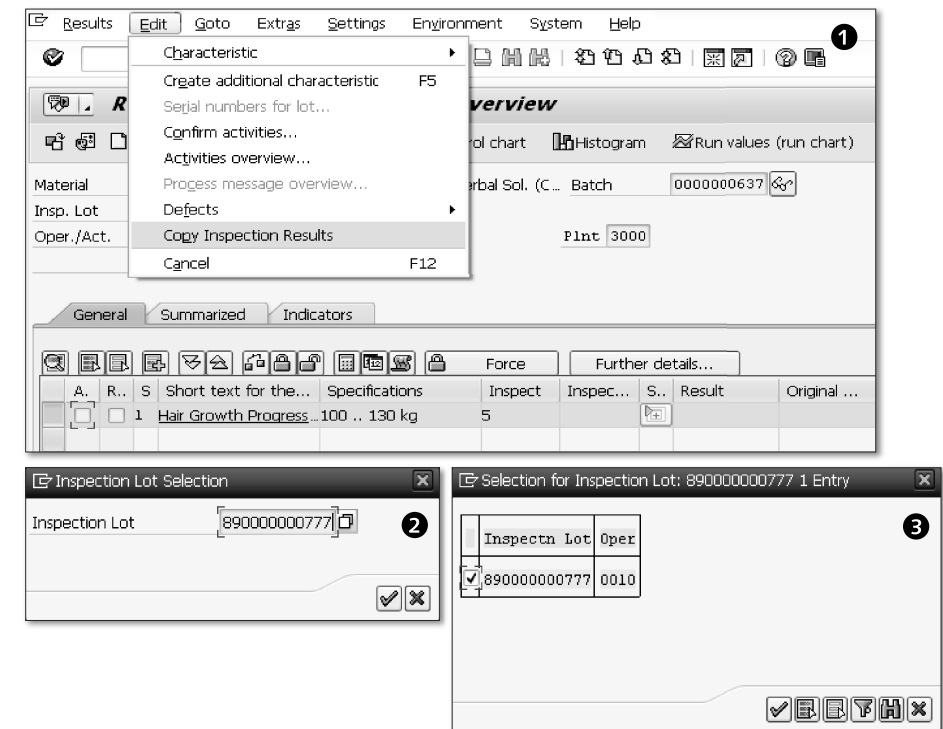
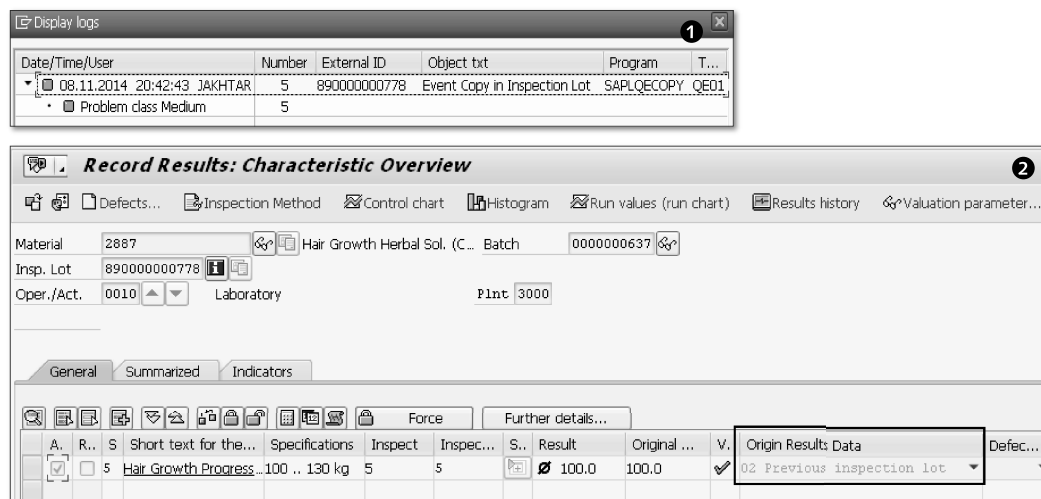

Figure 3.22 Copy Options for Results Recording
Figure 3.23 Inspection Lot with Copied Results
Access Figure 3.22, which is the results recording screen (Transaction QE01) of the inspection lot number 890000000778. Since your configuration settings stipulate that you use the manual option to copy inspection results, choose EDIT • COPY INSPECTION RESULTS, as shown in Figure 3.22 ❶. When you do this, the system brings up the inspection lot selection pop-up that you see in ❷. Enter the previous (or other) inspection lot number 890000000777 and choose CONTINUE. The system brings up operation(s) within the inspection lot 890000000777 for you to choose. In this case, it's OPER. (operation) 0010 that you select in ❸ and choose CONTINUE. This leads you to Figure 3.23.
Figure 3.23 ❶ shows the DISPLAY LOGS of a successful (or unsuccessful) copy of inspection results from one inspection lot to another. Here, the system also shows the copied-to inspection lot 890000000778 in the EXTERNAL ID column.
Figure 3.23 ❷ shows that inspection lot 890000000778 is the copied results, and the ORIGIN DATA SOURCE is 02 (Previous inspection lot), which you set up in the characteristic of the inspection plan.